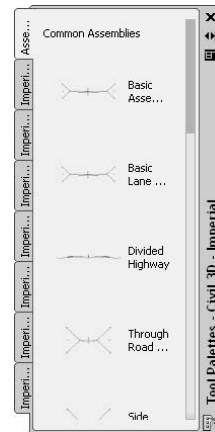

Figure 2.15
2. Open Tool Palettes by selecting General Tool Palettes, or by pressing Ctrl+3. The default tool palette should look something like Figure 2.15.